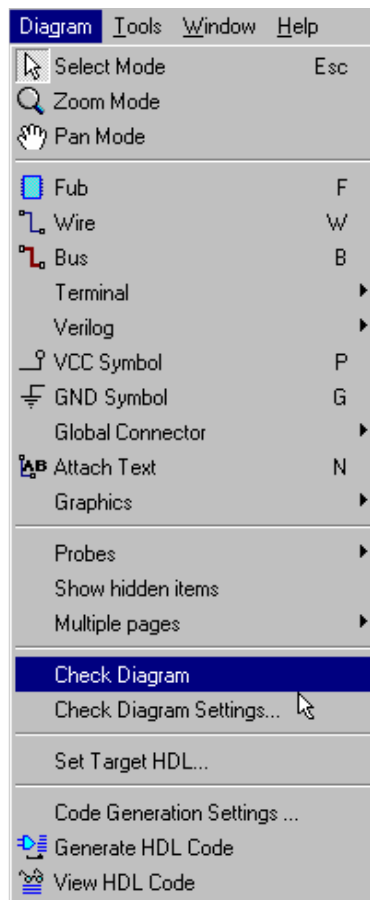

Figure 19
2. Active-HDL provides a “Check Diagram” tool. This tool will verify that the components are connected properly by printing the results into the Design Rule Check report (DRC). Always use the “Check Diagram” tool prior to compiling by clicking the Diagram/Check Diagram option in the menu bar (see Figure 19).